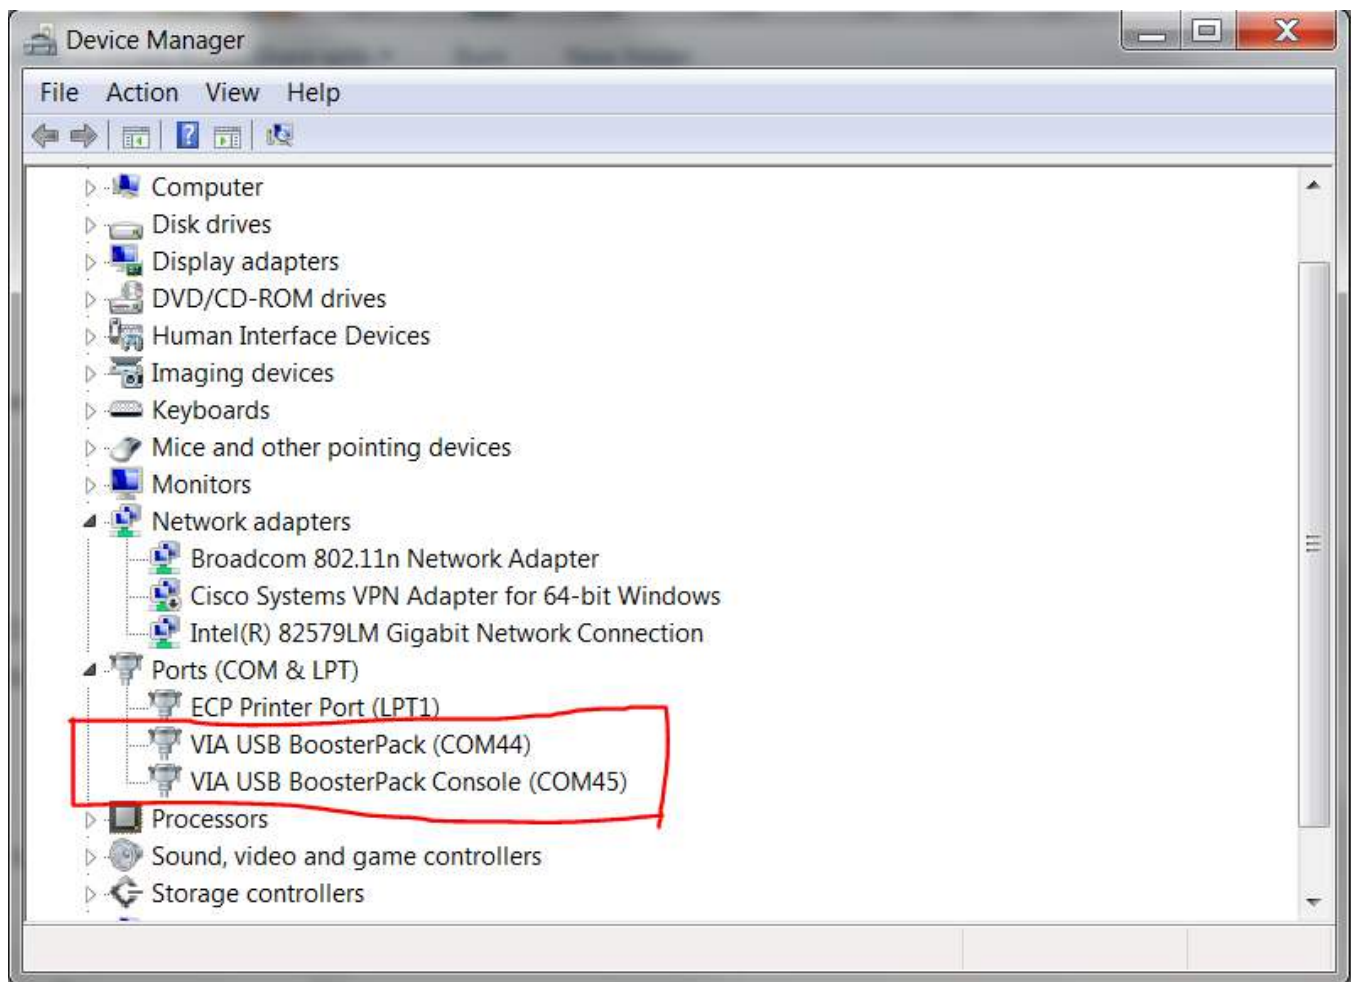

Figure 9. TMC1294 LaunchPad™ Development Kit VIA BoosterPack™ Plug-in Module Driver
4. Open computer's "Device Manager". You must see under ports "VIA USB BoosterPack" and "VIA USB BoosterPack Console" as shown in Figure 9